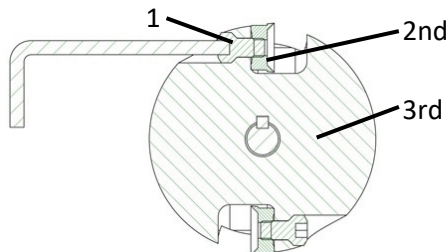

Figure 10: Changing knives
- > Loosen the knife screws (**1** – Fig.10)at the milling head (**3** – Fig.10)with an inner six-edge key 6 mm.
- > Swap the round knives (**2** – Fig.10)or rotate the round knives 180°.